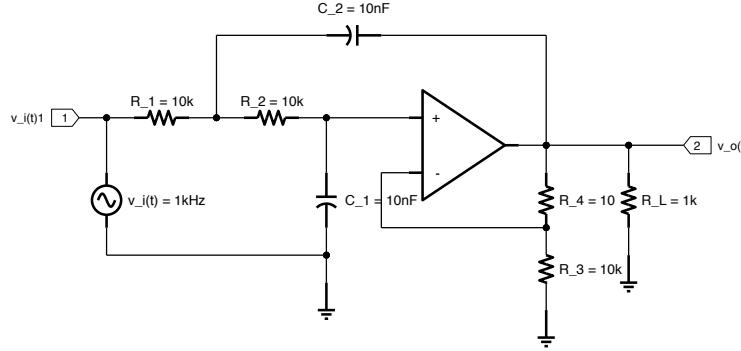

Figure 2: Low-pass Sallen-Key circuit
Consider the filter in Fig. 2. We let $Z_1 = R_1$, $Z_2 = R_2$, $Z_3 = \frac{1}{sC_1}$ and $Z_4 = \frac{1}{sC_2}$. The transfer function for this low-pass filter is given by
- Calculate the cutoff frequency of the filter in Fig. 2. Use Matlab to plot the transfer function (**Hint: a part of the code is provided in page 5**). Change the value of R_1 to $25K$, $100K$ and repeat your calculation.
- Build the low-pass filter on LTSpice (**procedures are provided in page 6 of this lab manual**) according to Fig. 2.